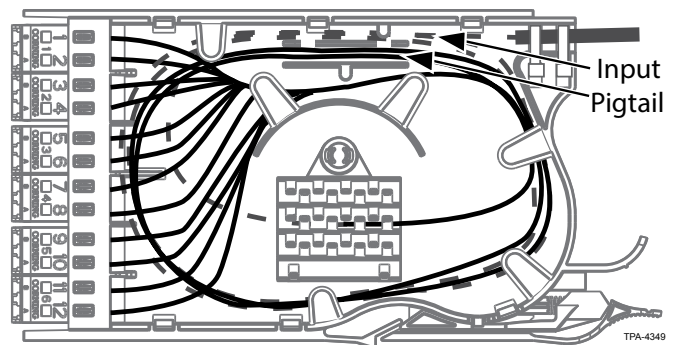

Figure 4
Step 5: Once all splices are complete, route the bundle of spliced fibers as shown in Figure 4, storing fibers under the flanges to prevent them from being pinched when reinstalling the cover. It will be necessary to twist the fibers and flip them over to neatly route them inside the cassette.